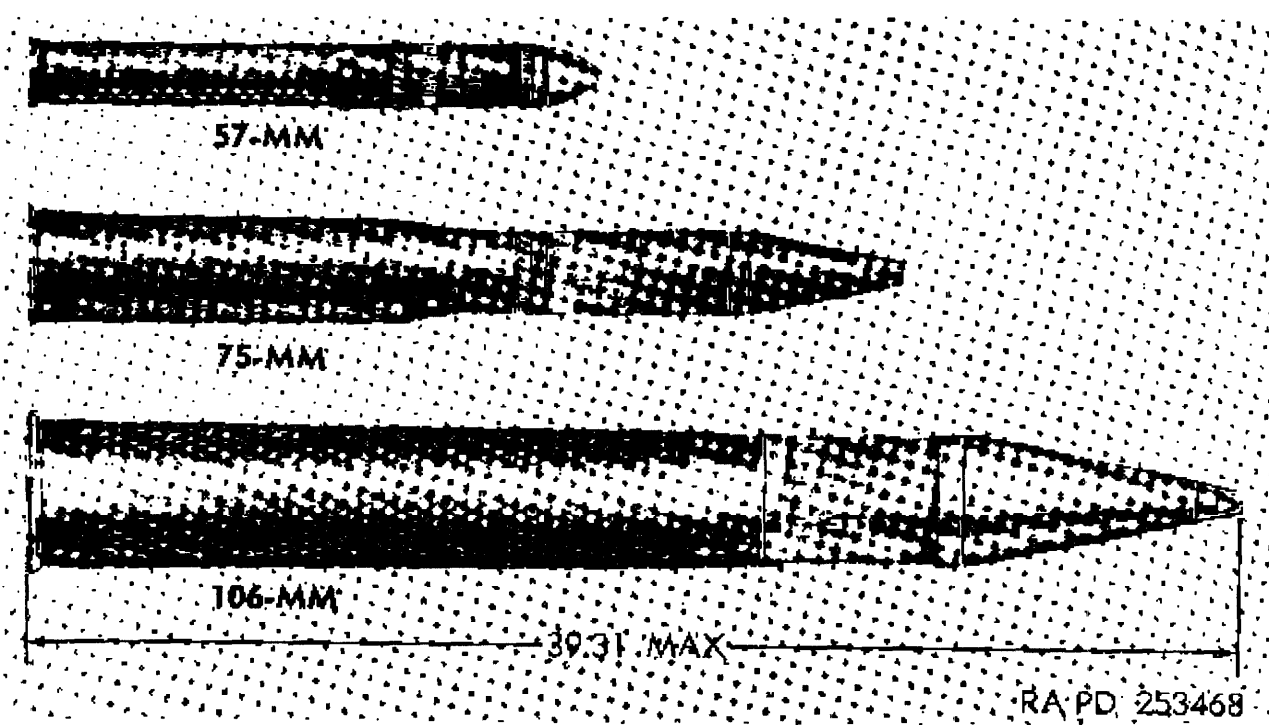

Figure 1. Recoilless rifle ammunition.
a. This manual is intended for instruction and the dissemination of such general and technical information concerning recoilless rifle ammunition (fig. 1) and components thereof as may be necessary for their proper care, handling, and use. General information on all types of conventional ammunition is contained in TM 9-1900. General information on care, handling, preservation, and destruction of conventional ammunition is contained in TM 9-1903. Both manuals should be available for use as required in connection with this manual.
- (1) Adds information on ammunition